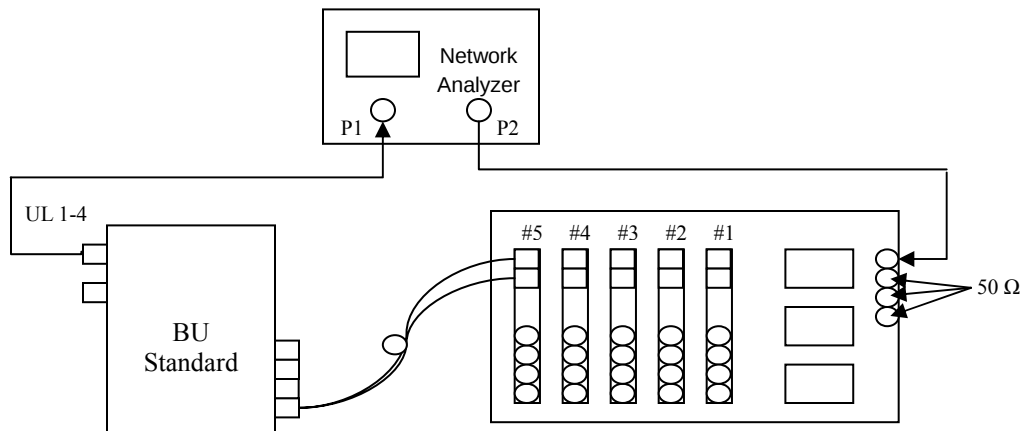

Figure 6.1 UL Mean Gain & Ripple Setup
6.2. Connect Network Analyzer to the relevant Cabinet Antenna port, UL BU port and BU to the relevant RHU in the cabinet, as shown at Figure 6.1.